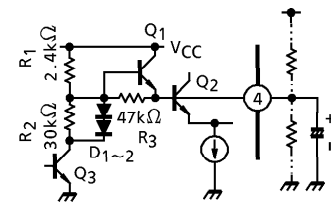

Fig.1 Internal circuit of pin④
Internal circuit of pin④ is shown in Fig.1. Ripple filter output voltage is decided by internal resistor R₁, R₂ and Q₃, and limited by D_{1~2} and Q₃ to V_{RF} = 1.5V (Typ.)